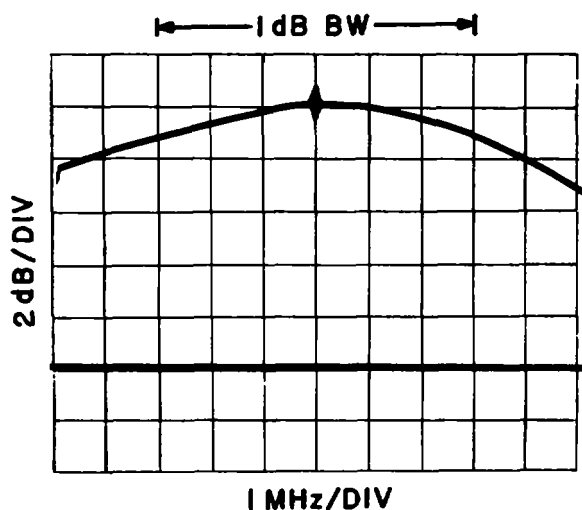

Figure 4-23. AM Demodulator Wideband Alignment, Typical Response
7. Adjust C9 and C42 for the best wideband response, centered at 21.4 MHz. The oscilloscope response should be centered at 21.4 MHz, with a 1 dB bandwidth of 4 MHz, minimum, as illustrated in **Figure 4-23**.